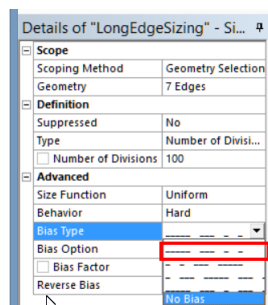

Figure 29: Bias type selection.
- for *Bias type* select *...* (see Figure 29);